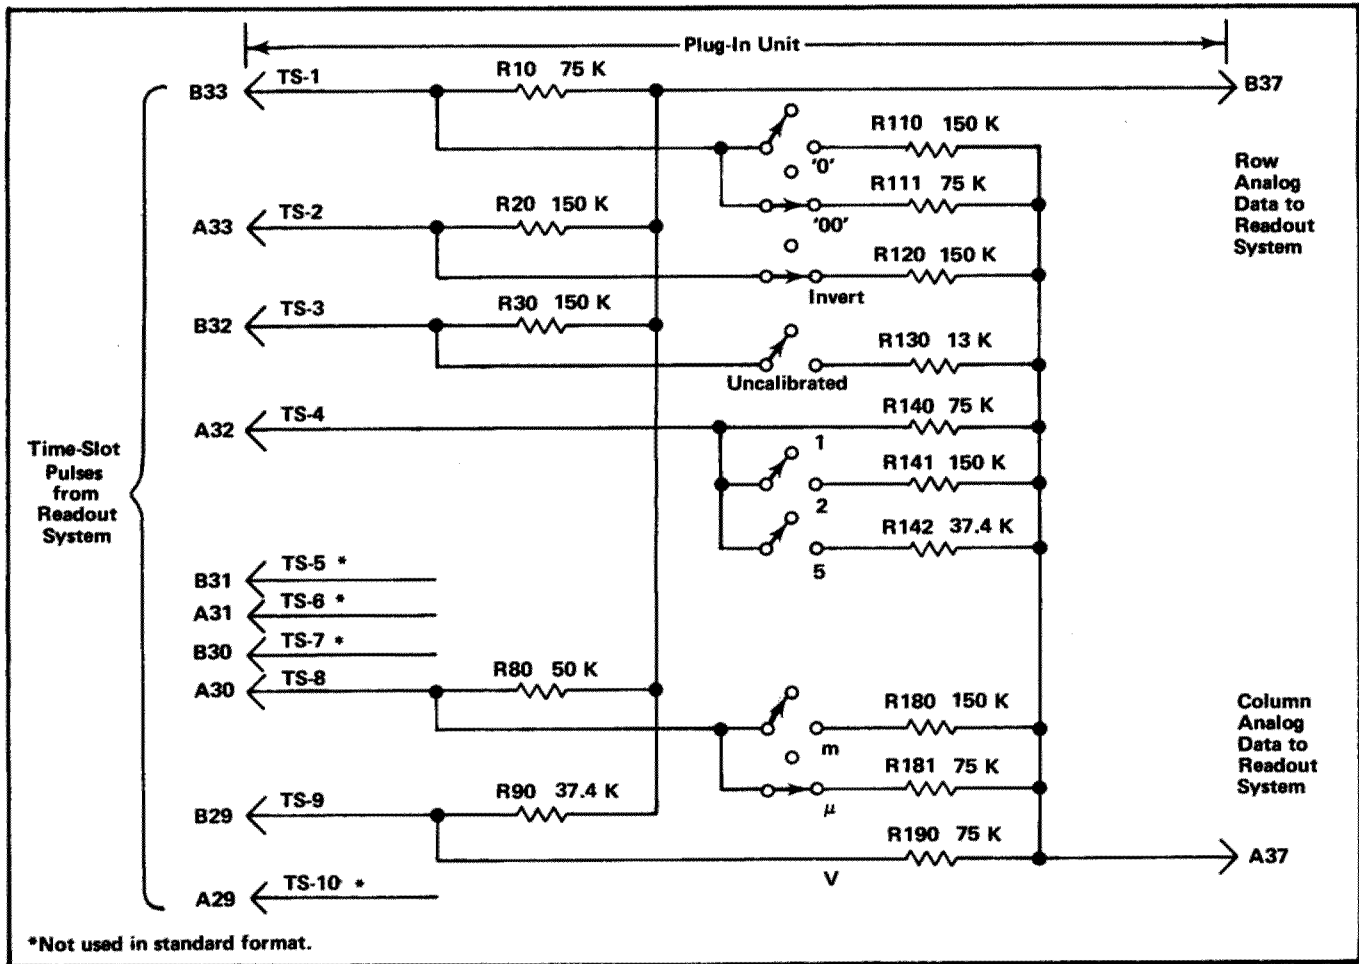

Fig. 4-32. Typical encoding scheme for voltage-sensing amplifier plug-in unit. Coding shown for deflection factor of 100 microvolts.
Data is conveyed from the plug-in units to the Readout System in the form of an analog code having up to 11 current levels (from zero to one milliampere in 100 microampere steps). The characters which can be selected by the encoded data are shown on the Character Selection Matrix (see Fig. 4-25). Each character requires two currents to define it; these currents are identified as the column current and the row current which correspond to the column and row of the matrix. The column and row data is encoded by resistive programming in the plug-in units. Fig. 4-32 shows a typical encoding scheme for a voltage-sensing amplifier plug-in unit. Notice that the 10 time-slot (TS) pulses produced by the Time-Slot Counter stage are connected to the plug-in unit. However, time-slots 5, 6, 7, and 10 are not used by the plug-in unit to encode data when using the Standard Readout Format (see Table 4-2 for Standard Readout Format). The amplitude of the time-slot pulses is exactly -15 volts as determined by the Timer stage. Therefore, the resultant output current from the plug-in units can be accurately controlled by the programming resistors in the plug-in units.
For example, in Fig. 4-32, resistors R10 through R90 control the row analog data which is connected back to the Readout System. These resistors are of fixed value and define the format in which the information will be presented by the Readout System. Fig. 4-33A shows an idealized output current waveform of row analog data which results from the 10 time-slot pulses. Each of the steps of current shown in these waveforms corresponds to 100 microamperes of current. The row numbers on the left-hand side of the waveform correspond to the rows in the Character Selection Matrix shown in Fig. 4-35. The row analog data is connected back to the Readout System via terminal B37 of the plug-in interface.
The Column analog data is defined by resistors R110 through R190. The program resistors are connected to the time-slot lines by switch closures to encode the desired data. The data as encoded by the circuit shown in Fig. 4-32 indicates a 100 microvolt sensitivity with the display inverted and calibrated vertical deflection factors. This results in the idealized output current waveforms shown in Fig. 4-33B at the column analog data output, terminal A37 of the plug-in interface. Resistor R111, connected between time-slot 1 and the column analog data output, encodes two units of current during time-slot 1. Referring to the
connectors of vertical plug-in units. A special coding ring around the input connector of the plug-in unit senses the attenuation ratio of the probe (with readout-coded probes only). The probe contains a resistor which results in additional column current. For example, if a 10X attenuator probe is connected to a plug-in with the coding for 100 microvolts as shown in Fig. 4-32, an additional unit of current is added to the column analog data during time-slot 1. Since two units of current were encoded by R111 (see Fig. 4-32), this additional current results in a total of three units of column analog current during this time-slot. Referring to the Character Selection Matrix, three units of column current along with the two units of row current encoded by R10 indicates that the prefix should be reduced. Since this instruction occurs in the same time-slot which previously indicated that two zeros should be added to the display and only one instruction can be encoded during a time-slot, the zeros do not appear in the display. The CRT readout will now be changed to 1 mV (readout) program produced by plug-in same as for previous example.